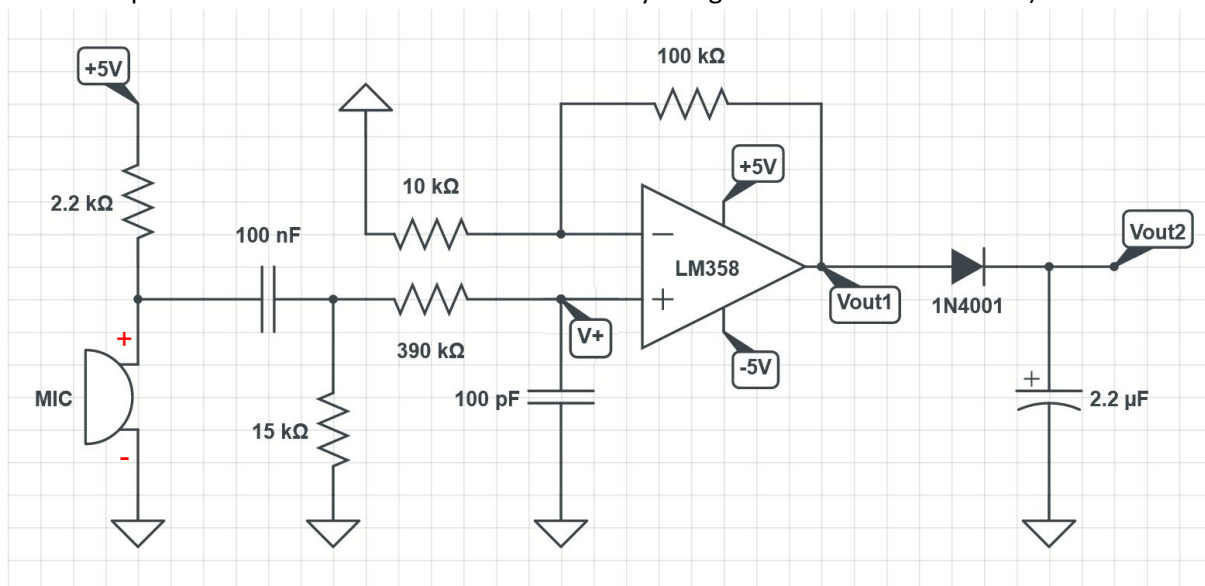

Figure 8. Microphone with the Low Pass Filter + High Pass Filter + Amplifier + Envelope Detector
7. Next, connect the envelope detector to the output of the filter-amplifier combination as shown in Figure 8. The output of the envelope detector should follow the noise profile and should reduce as the noise reduces.